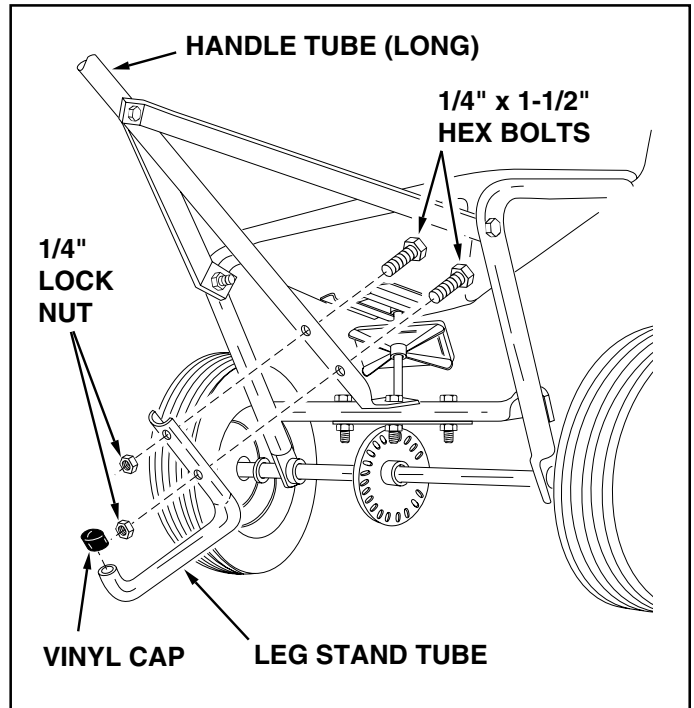

FIGURE 5
13. Assemble the leg stand tube to the long handle tube using two 1/4" x 1-1/2" hex bolts. Secure tightly with two 1/4" hex lock nuts. See figure 5.
14. Place a vinyl cap onto the end of the leg stand tube. See figure 5.